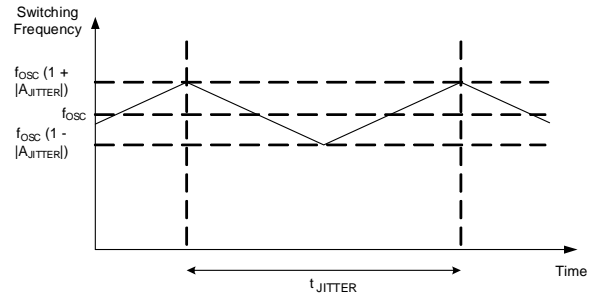

Figure 3: Frequency Jittering
An internal capacitor is charged with a controlled current source, which is fixed when the FB voltage (V_{FB}) exceeds 2V, and its voltage is compared to the TIMER voltage (V_{TIMER}). V_{TIMER} is a triangular wave between 2.8V and 3.2V with a charging/discharging current (see Figure 3). The switching frequency can be calculated with Equation (1):